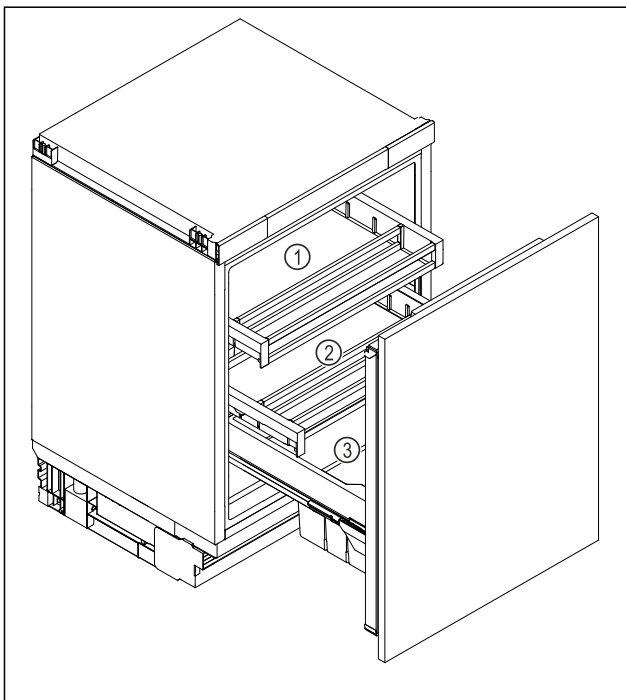

Fig. 6 Example illustration
- Top drawer Fig. 6 (1): Store butter, cheese, canned food, and tubes.
- Bottom drawer Fig. 6 (2): Store perishable food, such as pre-cooked meals, fish, fresh meat and lunch meat.
- Fruit and vegetable box Fig. 6 (3): Store packaged fruit and vegetables.
- Beverage drawer Fig. 6 (3): Store individual bottles.